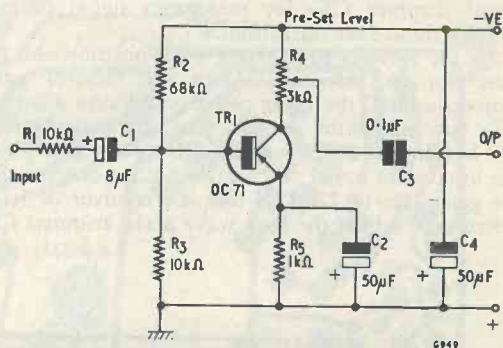
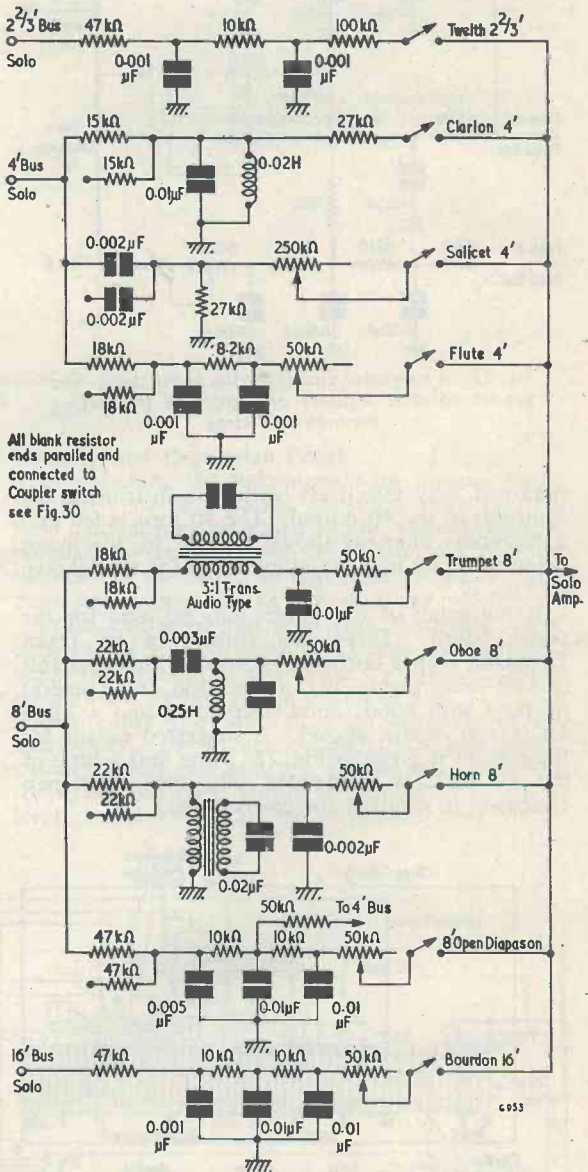

Fig. 22. A single-transistor pre-amplifier, which may be employed to make up losses sustained in filters, etc.
Fig. 26. The filter used for synthesis of the Fifteenth 2ft tone
**Components List (Fig. 22)**
Dependent on the number of stops used it will be necessary to boost the outputs from the 8ft and 4ft buses. A suitable pre-amplifier circuit is illustrated in Fig. 22 and this may be inserted between the buses and filters as required. (It should be noted that the pre-amplifiers referred to here are not the pre-amplifiers shown in Fig. 3 of Part 1.)
Any of the stops, such as the Trumpet, may be boosted still further by means of the pre-amplifier of Fig. 22. The latter is so economical (not needing valves) that it can be inserted at any point where necessary.
obtained very effectively with this instrument by synthesis of the 4ft output. The 4ft tone is fed into a high-pass filter, as shown in Fig. 26, the losses being made up by a pre-amplifier of the type shown in Fig. 22.